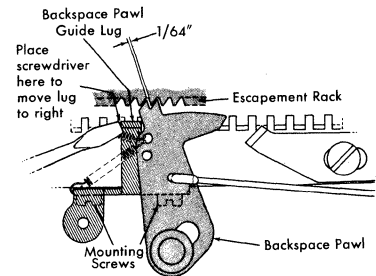

Figure 35. Backspace Guide Lug Adjustment
3. Adjust the lug, or backspace pawl guide by forming so that the pawl enters the escapement rack with about 1/64" clearance between the face of the pawl teeth and the face of the rack teeth (Figure 35).